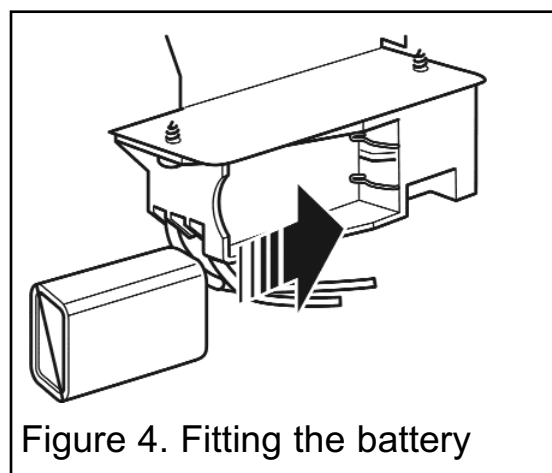

Figure 4. Fitting the battery
2. Fit the replacement battery to the ignition block. (See figure 4). The +ve and -ve terminal positions are marked on the battery holder body.